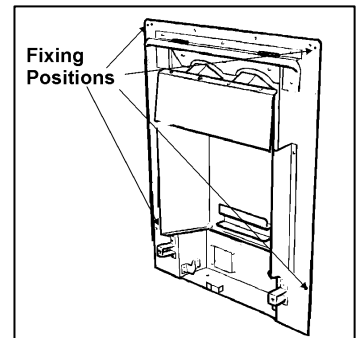

Fig. 17 Front fixing
7.1.2 Mark the fireplace front surround through the four fixing holes in the side flanges of the convection box (see figure 17).